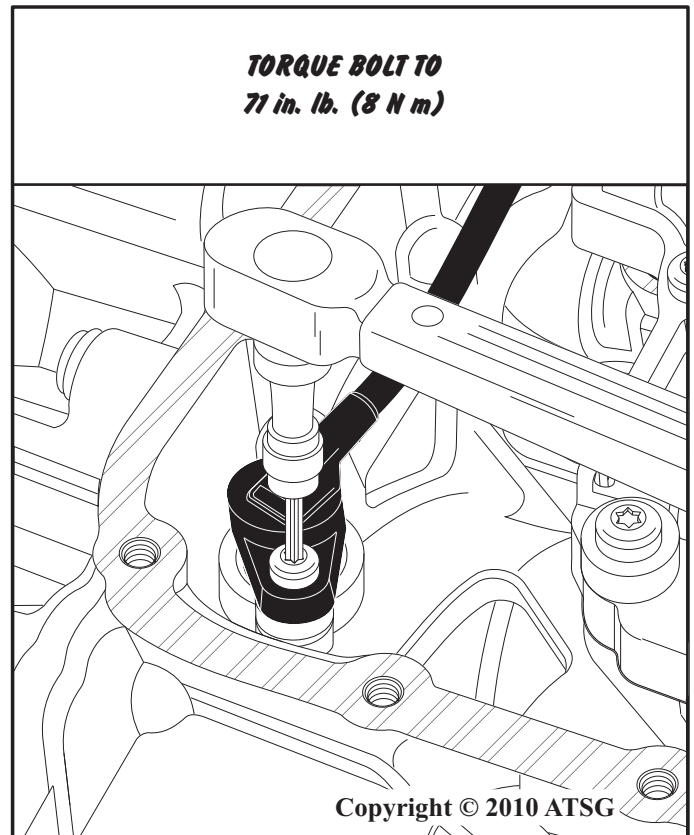

Figure 30
75. Tighten the output speed sensor hold down bolt and torque to 71 in. lb. (8 N m) as shown in figure 30.